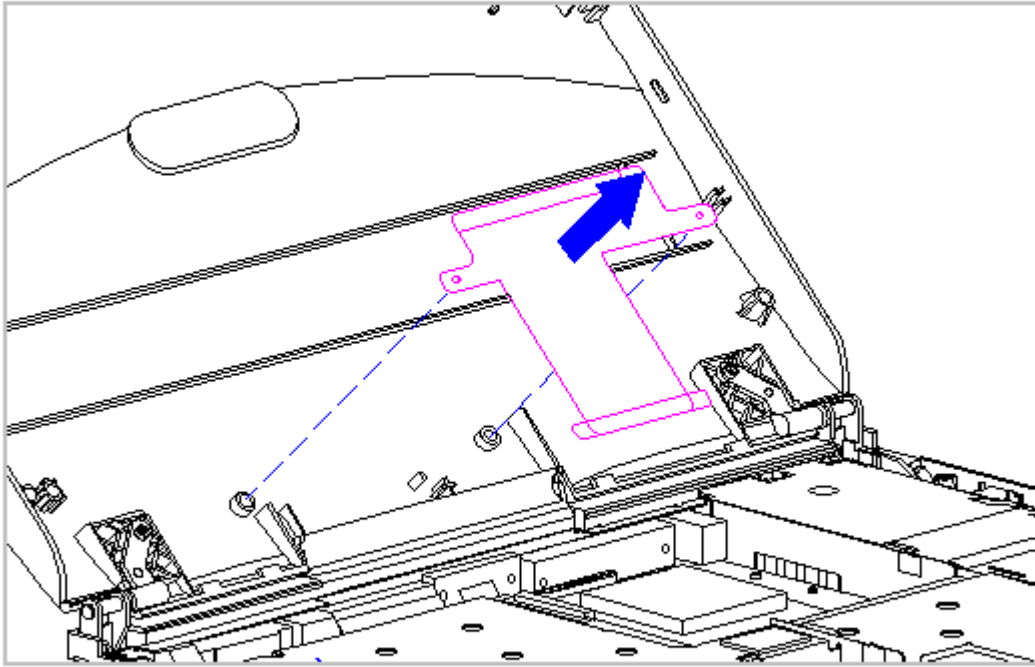

Figure 3-109. Removing the Display Ground Cable from the Display Enclosure
17. Lift the display ground cable out of the display enclosure (Figure 3-109).